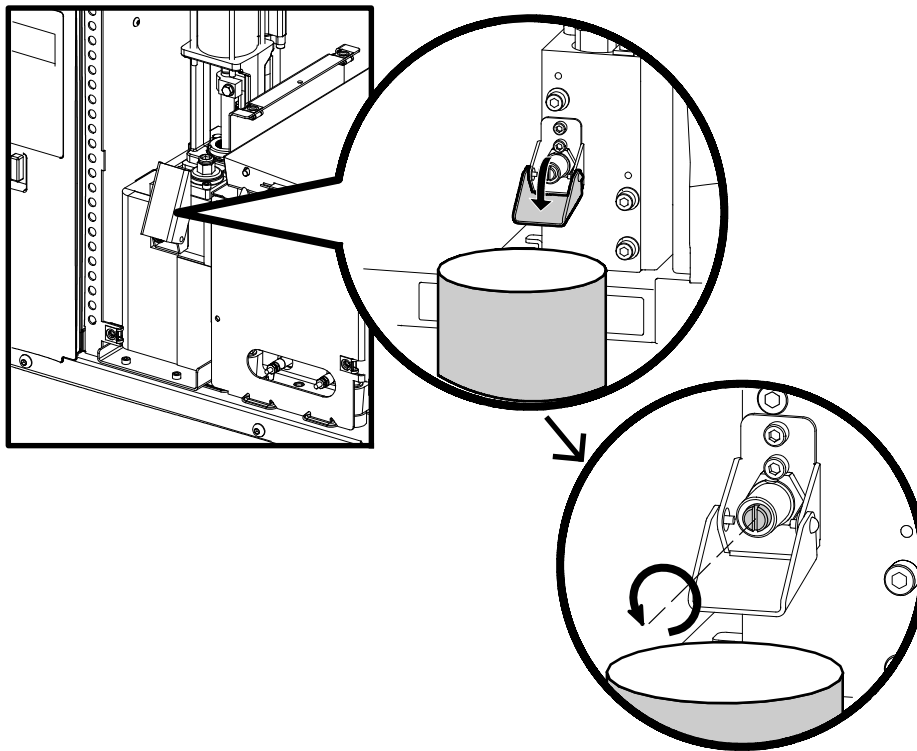

Figure 5-2 Lowering the drain chute and opening the drain valve
3. Lower the drain chute and place a suitable waste container under the drain port. See Figure 5-2.